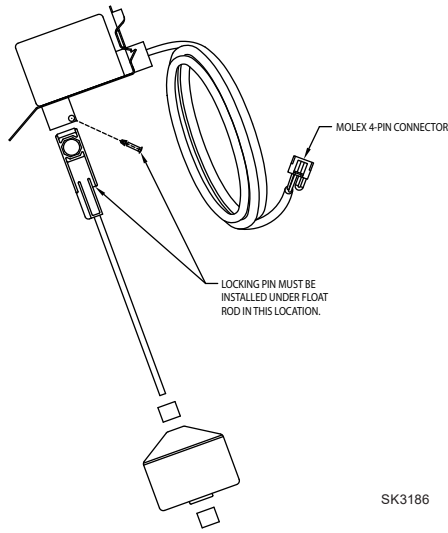

FIGURE 3
- Assemble the operation float assembly per Figure 3. Install float switch as seen in Figure 1.